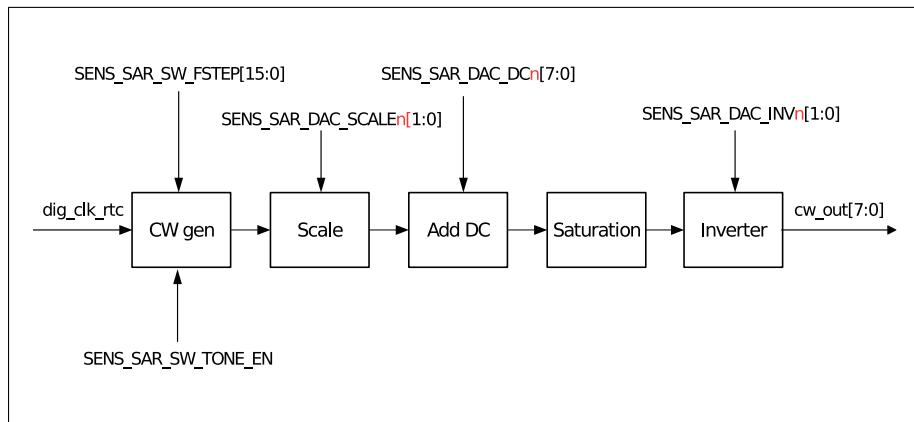

Figure 128: Cosine Waveform (CW) Generator
The cosine waveform (CW) generator can be used to generate a cosine / sine tone. A diagram showing cosine waveform generator's function is presented in Figure 128.